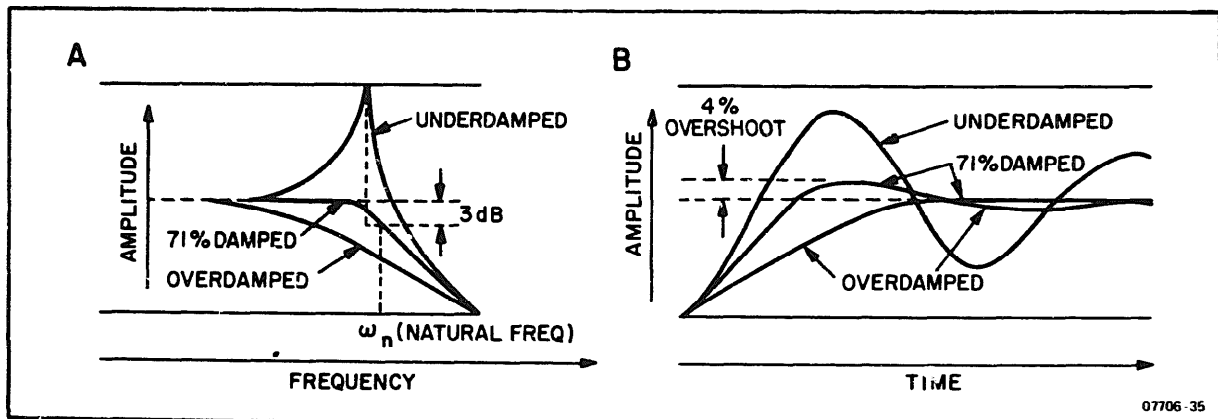

Figure 4-9. Galvanometer Response Versus Damping
4-53. **Optimum Damping.** Optimum operation occurs at approximately 71% of damping where the frequency response is down 3 dB at the natural frequency (ω_n), see Figure 4-9 (A), and where the response to a pulse input has approximately 4% overshoot as shown in Figure 4-9 (B). In this case, the galvanometer approaches the final value quickly and settles to the final value with a slight overshoot.